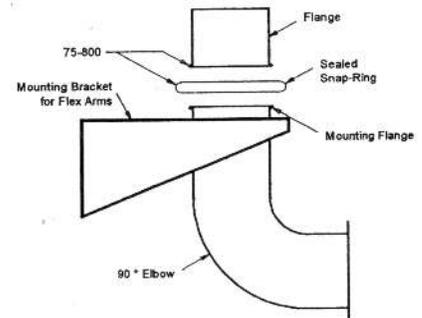

Figure 13
2. In order to use a 6" connecting duct to the main duct from the arm, **MODEL 75-800** connection flange and snap ring are required. See figure 13. The connection flange and the snap ring mount directly to the mounting bracket.